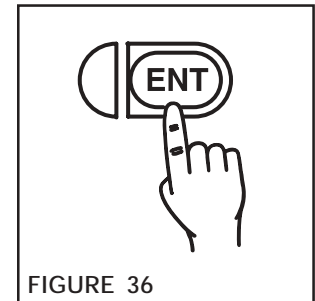

FIGURE 36
2. Press the **ENTER** Key to advance to START TIMER (See Figure 36).